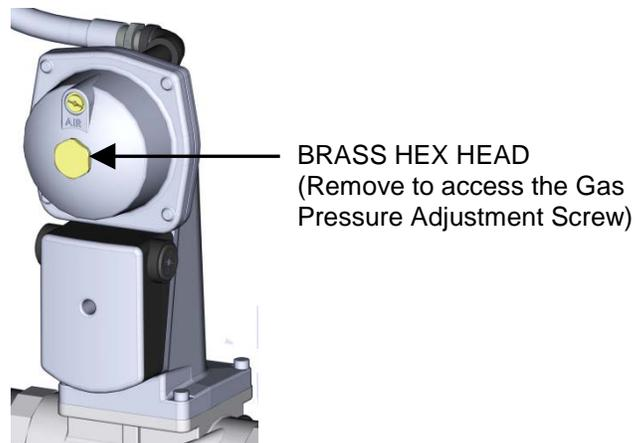

Figure 4-3: Gas Pressure Adjustment Screw Location
10. Next, verify that the gas pressure downstream of the SSOV is set to **7.5" to 8.3" W.C.** If gas pressure adjustment is required, remove the brass hex nut on the SSOV actuator to access the gas pressure adjustment screw (Figure 4-3). Make gas pressure adjustments using a flat-tip screwdriver to obtain a gas pressure between **7.5" and 8.3" W.C.**
15. If the oxygen level is not within the required tolerance, the gas pressure on the downstream side of the SSOV must be adjusted using the gas pressure adjustment screw on the SSOV (see Figure 4-3). Slowly rotate the gas pressure adjustment (approximately 1/4-turn increments). Allow the combustion analyzer to stabilize following each adjustment. Clockwise rotation reduces the oxygen level, while counterclockwise rotation increases the oxygen level.